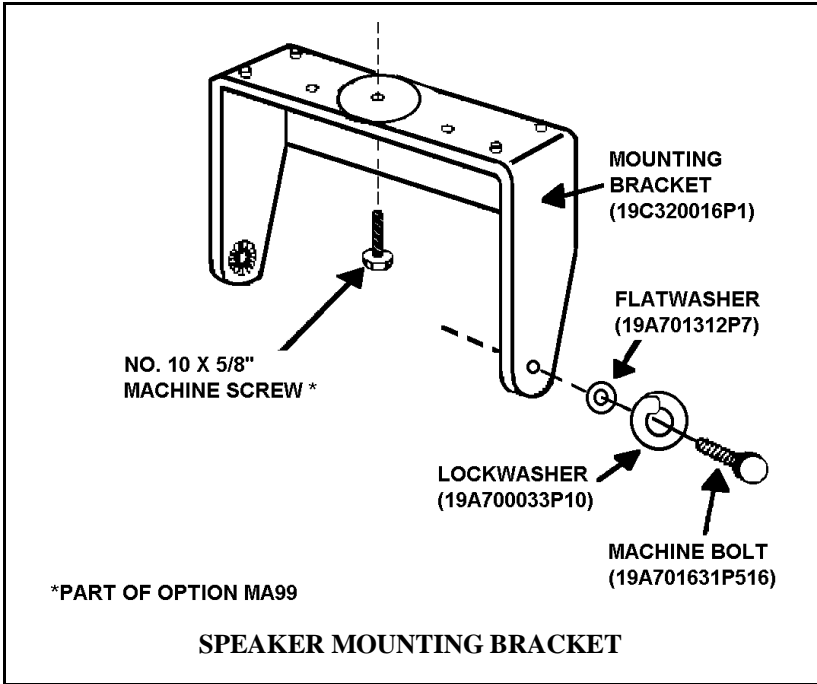

Figure 13 - Mounting the Speaker
1. Mount the External Speaker where the sound will be directed to the operator but not interfere with his vision or provide a hazard to passengers in case of an accident. The speaker may be mounted on the lower edge of the instrument panel, the firewall, or above the windshield in some trucks. Use the mounting bracket as a template for locating the mounting holes, and mount the speaker as shown in Figure 13.